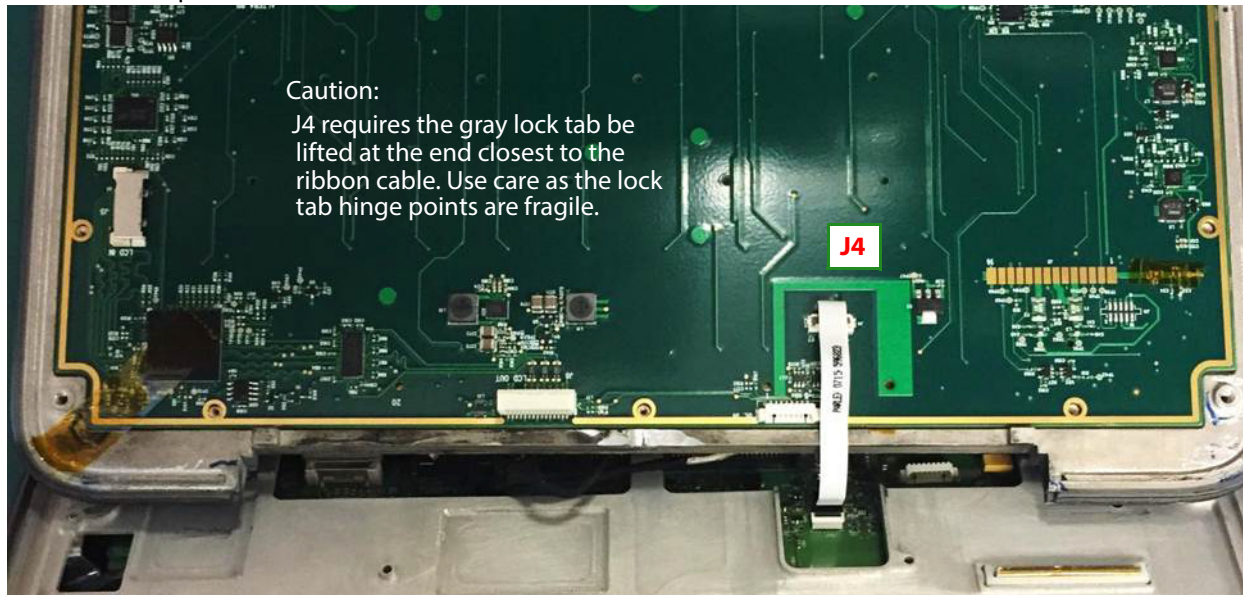

Figure 6.6 Control Panel Bottom
- 8 Remove the J4 "SPI" ribbon cable after unlocking the dark gray retainer on the socket as shown in Figure 6.6. The control panel can now be removed..
- 7 Remove the J4 "SPI" ribbon cable after unlocking the dark gray retainer socket as per Figure 6.6.
- 3 Connect the J4 "SPI" ribbon cable and lock the dark gray retainer on socket as shown in Figure 6.6.